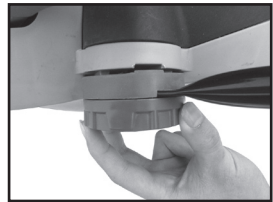

Fig. 2
1. Pull up and back on the upper handle (2) to raise the handles into the operating position.
2. Secure the lower handle with the quick adjustment knob (7) on both sides by aligning the notch and tighten in a clockwise direction (Fig. 2).
3. Secure the upper handle with the tightening of the handle securing knobs (3).